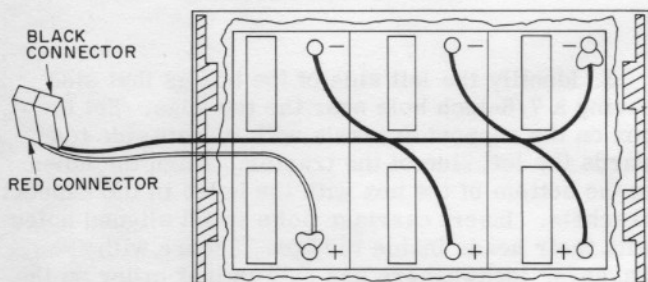

Figure 10. Battery Connections
8. Carefully set the batteries inside the bag, as shown in Fig. 10, observing the polarity markings. Make sure the sides of the bag remain above the top surfaces of the batteries in equal amounts. (It may help to tape the upper edges of the bag to the box's sides temporarily to permit easy insertion of the batteries.)
10. Connect the battery cables in accordance with Fig. 10. Observe the clamp polarity markings. Coat the terminals after the connections are made with a thin film of Battery Terminal Grease, AP31. Make sure all surfaces are coated!